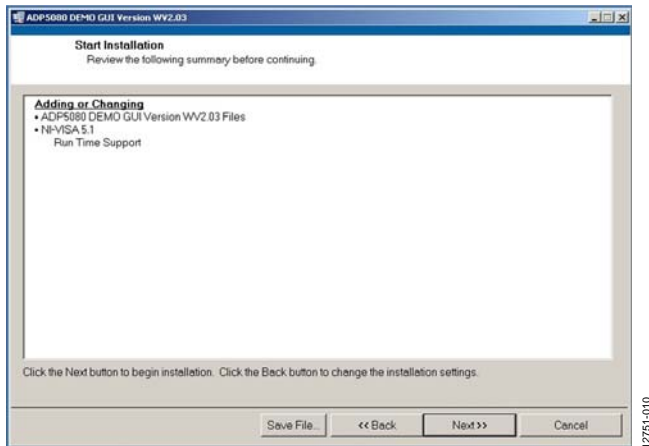

Figure 14. **Start Installation** Window
- Use the default values to start the installation of the ADP5080 DEMO GUI (see Figure 14). Click **Next** to begin the installation.